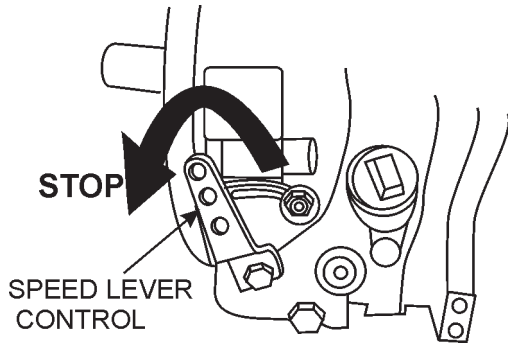

**Figure 10. Engine Electric Start**
1. Move the speed lever control to the **START** position (Figure 10).
2. Turn the key in the ignition switch to position **I** and verify that the BATTERY CHARGE indicator comes on (Figure 10).